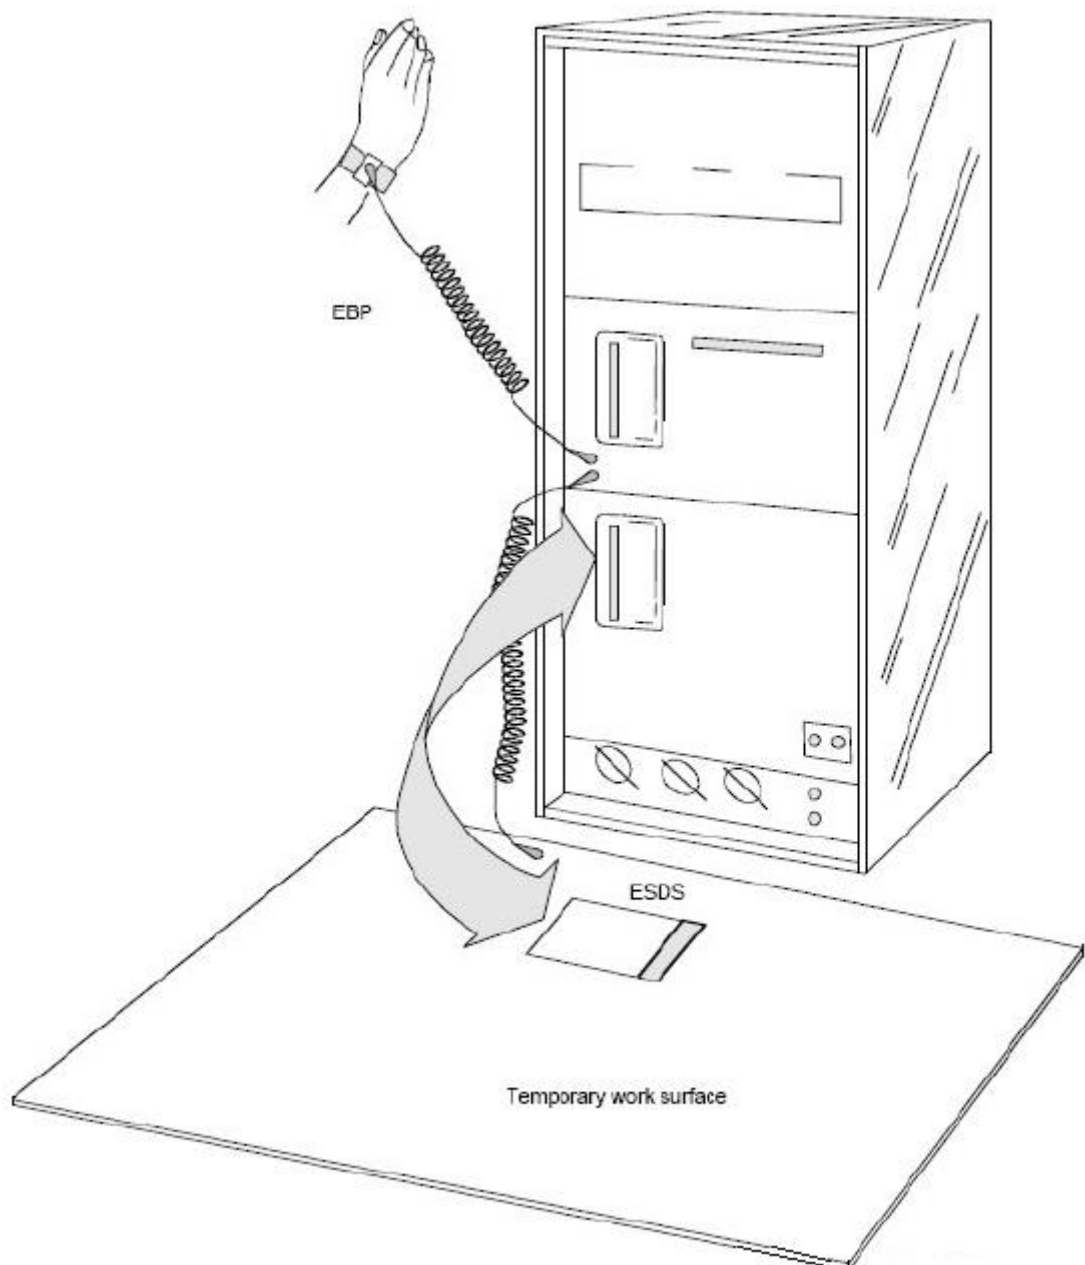

Figure 3: Represents the use of electrostatic discharge straps
- Each Cabinet's earth bar must be bonded (braised/welded) externally to the trench or tray earth conductor with a 25mm wide copper strap or braid. If the distance exceeds 5m, two parallel straps separated by the width of the cabinet must be used (figure 3).
- In existing installations employing separate earths, the earth bars have to remain isolated from the cabinet frame using stand-off isolators, and connected only to the electronic earth (EE).